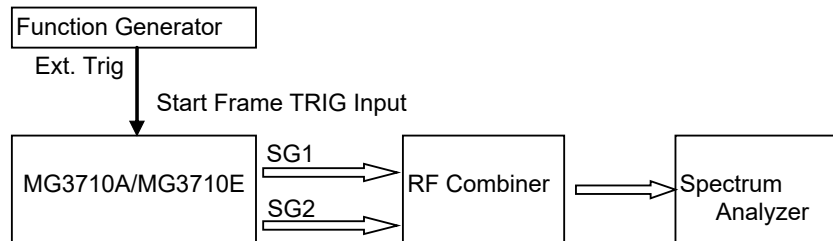

Figure 7.3.15-2 Phase Synchronization/Timing Synchronization Adjustment
When synchronizing several MG3710A/MG3710E units, connect them as shown in items 1 to 4 of Figure 7.3.15-1 Sync Multi SG Composition and set Sync Type, Number of Slaves, Slave Position, and LO Sync at each SG.